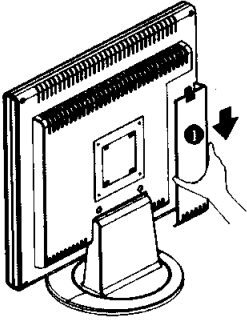

Figure 1-2
1. Remove the back panel ❶ from the rear of the monitor. (See Fig. 1.2,1-3)